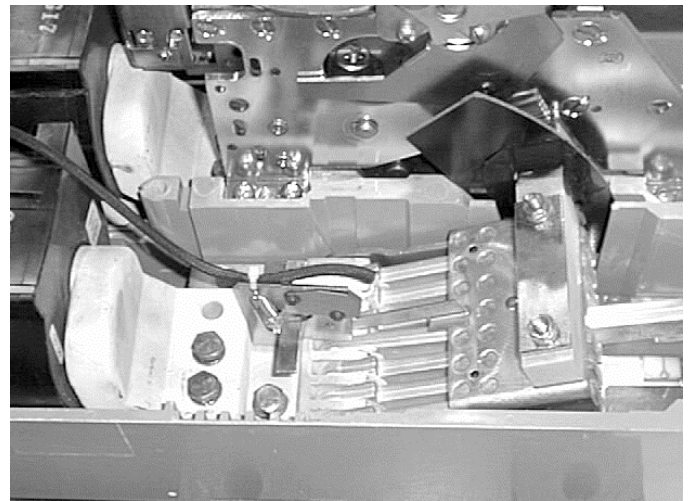

Figure 8. Old auxiliary switch in a 2500–4000 A breaker.
- 2500–4000 A breaker, Figure 8: Remove the bolt, lock washer, and flat washer securing it to the C phase contact assembly.